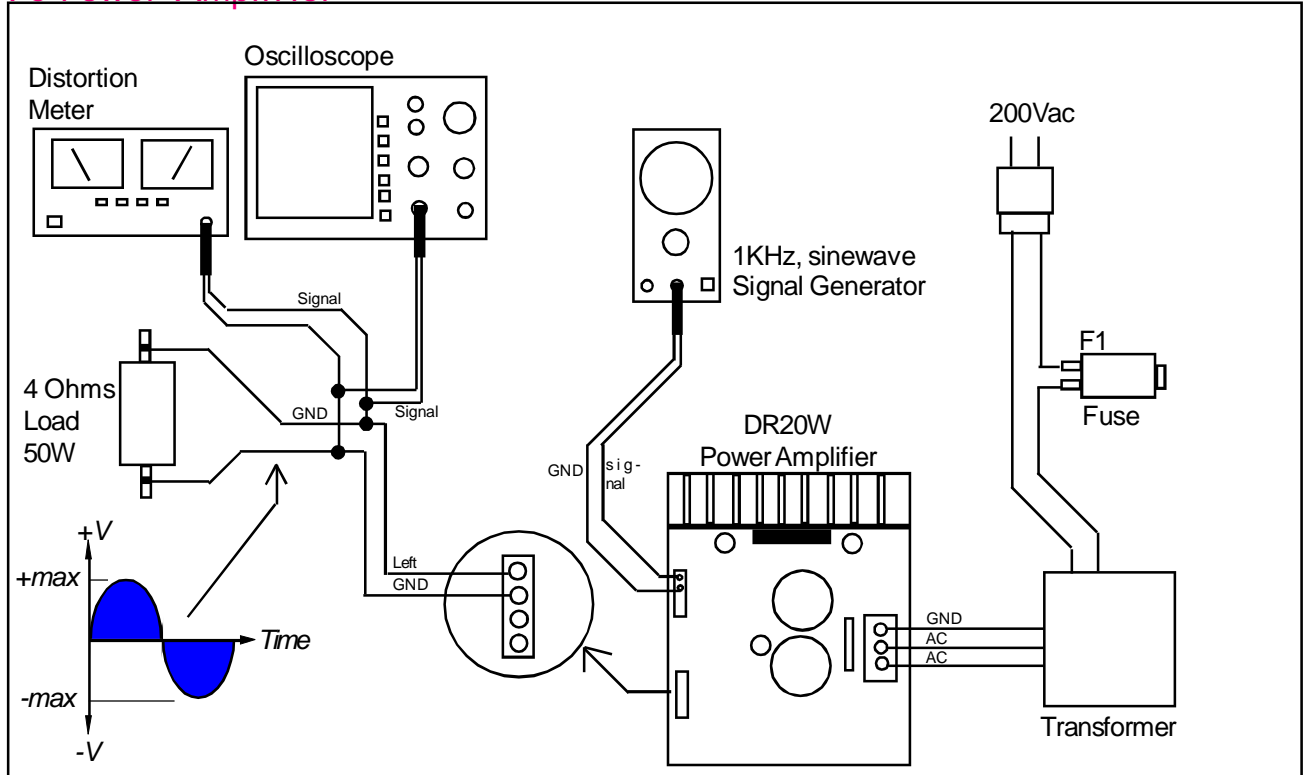

Figure 12(A) : Setup to check the Maximum Voltage Swing at the Load to determine the Maximum Power the DR20W can deliver to its load
- [1] I-setup ang mga equipment ayon sa Figure 12(A). Habang sine-setup ang logical equipments, huwag muna'ng isaksak ang AC cord sa 220Vac line socket. Please follow the Grounding Systems.